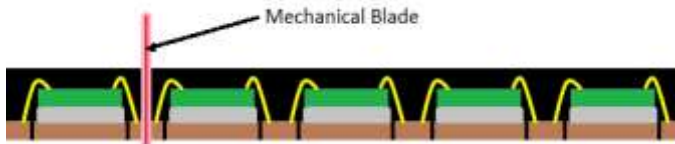

Fig. 1. Package singulation of individual unit from the molded leadframe strip.
- Conventional package sawing or singulation process in Fig. 1 uses a mechanical blade to cut through the metal and mold material according to defined package size of the product